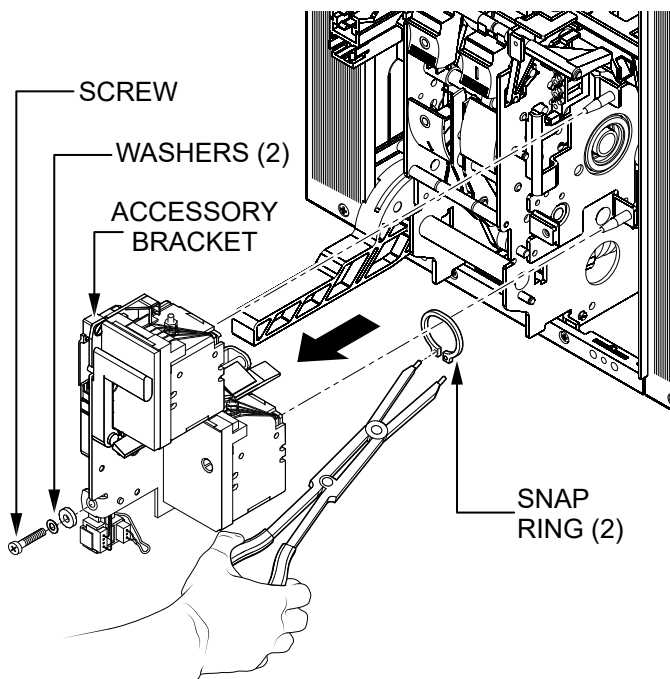

Figure 15. Remove Accessory Bracket
- Using a Phillips-head screwdriver, remove the **screw and washers** (Figure 15) from the front of the **accessory bracket**. Set the hardware aside for later.
- Using long-reach snap-ring pliers, remove the **two snap rings** (Figure 15) securing the accessory bracket to the circuit breaker assembly. Remove the accessory bracket and set the snap rings aside for later.